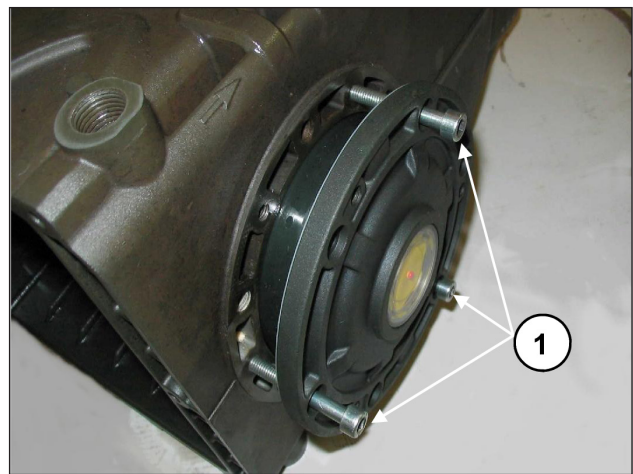
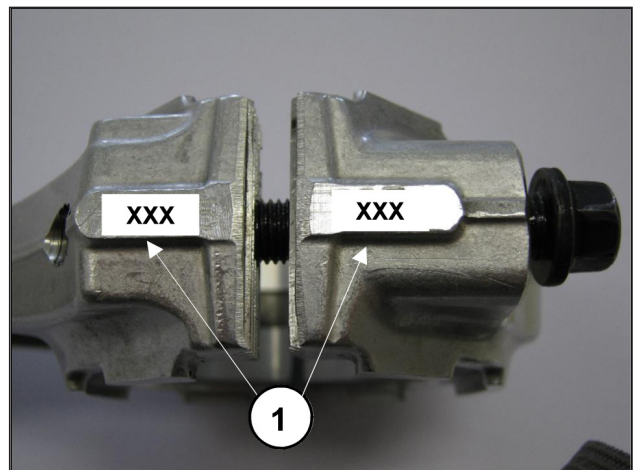

Fig. 8
Fig. 9
To facilitate filling of the first section and relative press fitting of the covers on the casing, we recommend using 3 partially-threaded M6 x 40 screws (Fig. 8, pos. ①), then completing the operation with the screws supplied (M6x18).
- Couple the con-rod caps to their shanks, referring to the numbering (Fig. 9, pos. ①). **Note the correct assembly direction of the caps.**
To transition the two side covers closer to the casing, it is possible to use 3 M6x40 screws for the first positioning phase as indicated in Fig. 8 and the screws provided for final fastening.
After having removed the side covers as indicated in par. 2.1.1, remove the outer ring nut of the bearings from the relative covers and the inner ring nut with the remaining part of the bearing from the two ends of the shaft by means of a normal "pin punch" or a similar tool as indicated in Fig. 8 and Fig. 9.